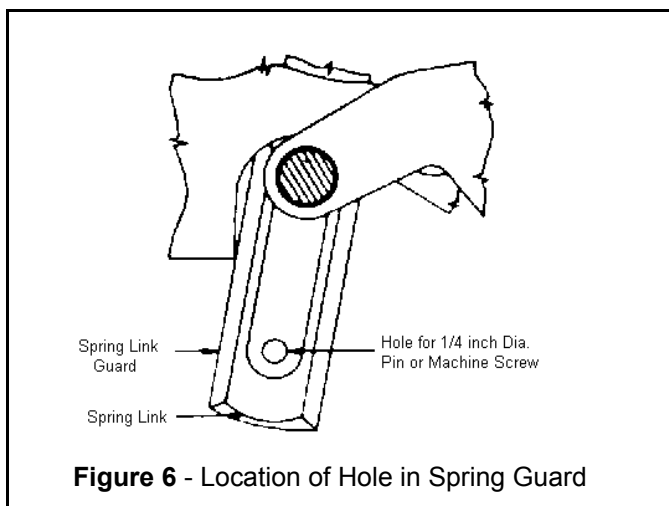

Figure 6 - Location of Hole in Spring Guard
1. Loosely install 1/4 inch diameter pins or machine screws in each of the two spring guards located under the breaker (See Fig. 6).